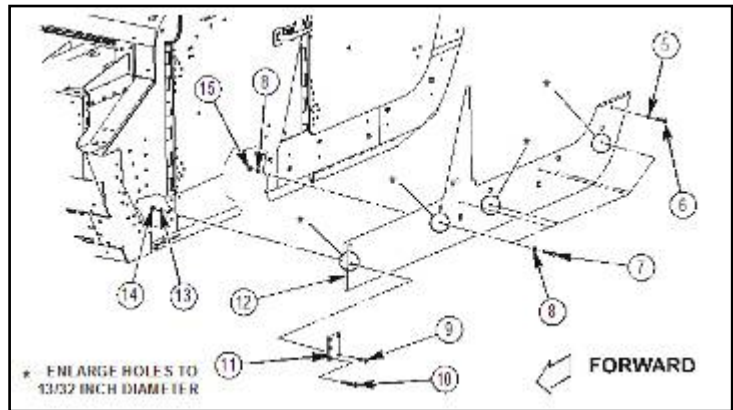

Figure 4b.
1. Remove three capscrews (10) from forward mounting holes in A-pillar to rocker gap plate (11) as shown in figure 4b. Discard capscrews (10).
3. Remove capscrew (6) and washer (5) as shown in figure 4b. Discard all fasteners.
4. Remove six locknuts (15), twelve washers (8), six capscrews (7), and left side rocker panel aluminum overlay (12) as shown in figure 4b. Retain left side rocker panel aluminum overlay (12) and discard all fasteners.
5. Enlarge four mounting holes in left side rocker panel aluminum overlay (12) to 13/32 inch using a regular drill bit. Refer to figure 4b.